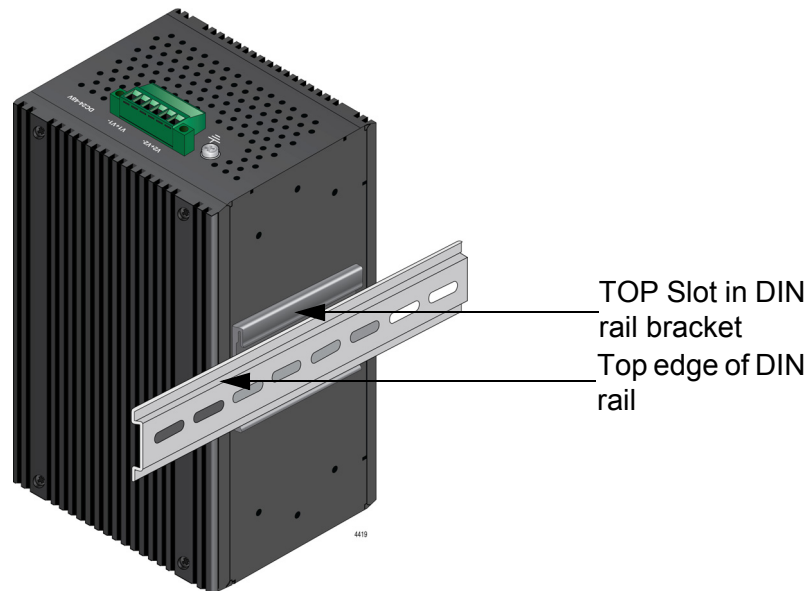

Figure 15. Install Top Slot of DIN Rail Bracket onto DIN Rail
1. Slide the slot on the top of the DIN rail bracket onto the top edge of the DIN rail. Refer to Figure 15.